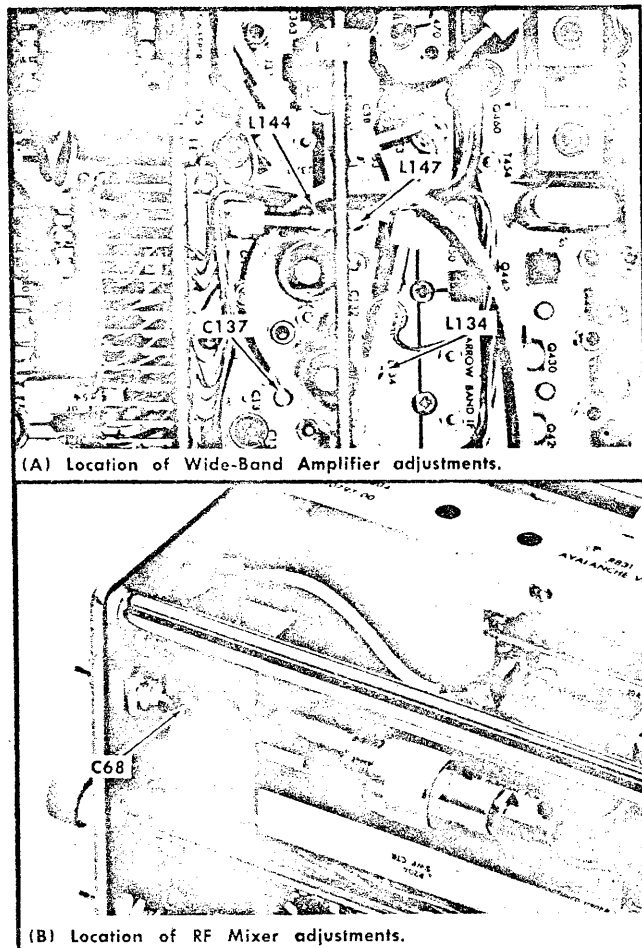

Fig. 6-26. Wide band IF amplifier and 1st mixer adjustments for response flatness.
d. Adjust C68 in the RF mixer (Fig. 6-26) for optimum signal amplitude and display flatness over the 100 MHz dispersion. (+ and -50 MHz either side of 1000 MHz.)
**17. Adjust Wide Band Amplifier Response, ① Check Response Flatness of RF Mixer and Wide Band IF Amplifier**
- d. Adjust L147 (Fig. 6-26) the 65 MHz trap, for minimum response to the 65 MHz signal. This will be indicated by a decrease in the vertical displacement of the plug-in oscilloscope trace.
- i. If the response flatness is not within tolerance, adjust C137 and L134 (Fig. 6-26) for maximum sensitivity and analyzer response flatness. Adjusting C137 will usually produce a noticeable effect on the response slope. Adjust L134 for optimum sensitivity at the high frequency portion of the IF response.